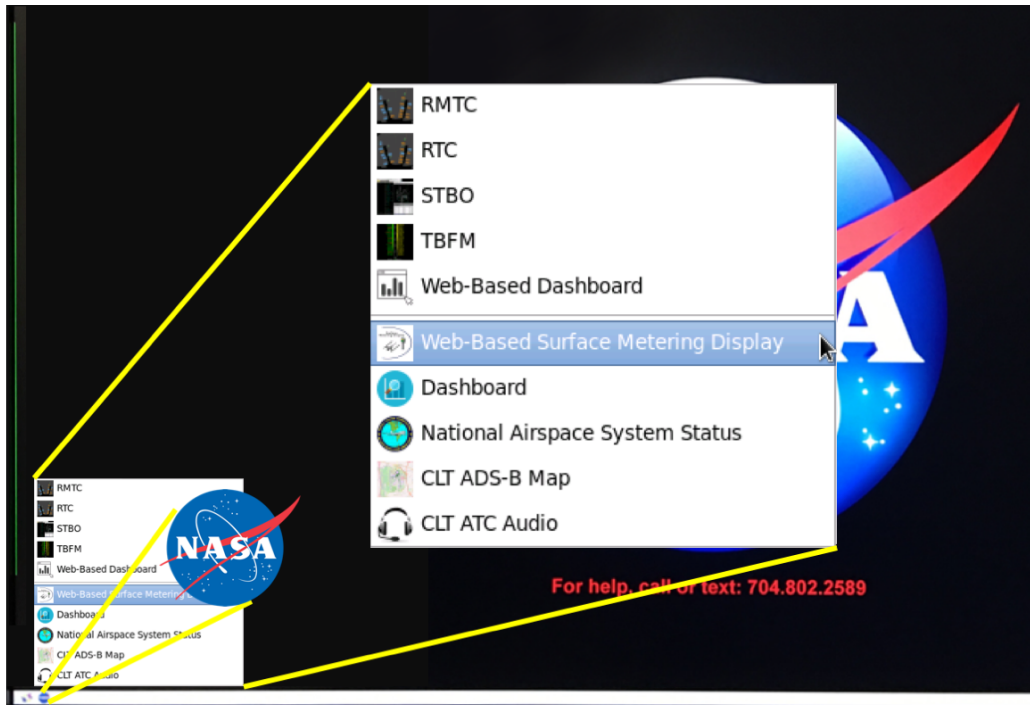

Figure 2. Loading Web-Based Surface Metering Display (SMD).
Step 2: Click on the NASA icon on the bottom left corner to launch the menu on the toolbar (Figure 2).